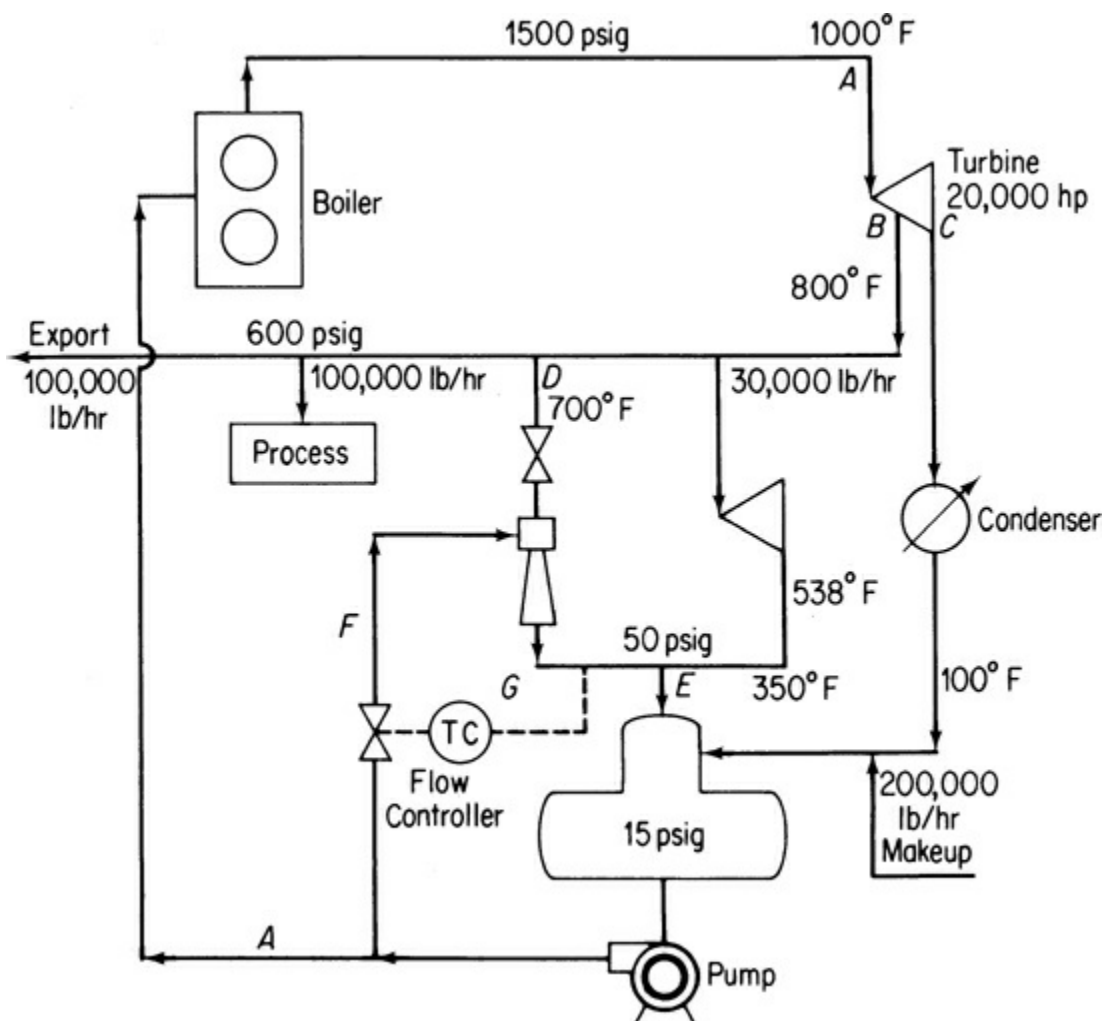

Figure P14.3
14.3 The stream flows for a plant are shown in Figure P14.3. Write the material and energy balances for the system and calculate the unknown quantities in the diagram (A to F). There are two main levels of stream flow: 600 psig and 50 psig. Use the steam tables for the enthalpies.